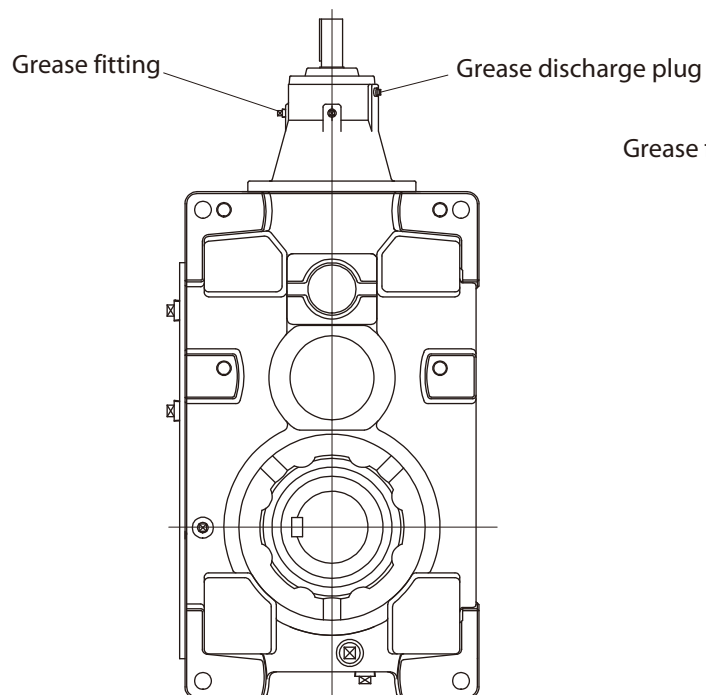

Fig.33 Reducer upright mount
- Please see Fig.33 and 34 on Page 25 for positions of grease nipples and drain plugs.
(3) Selection of lubricant
1. Some bearings need to be greased. Verify the number and locations of the grease fittings (Fig.33 and 34 on Page 25).